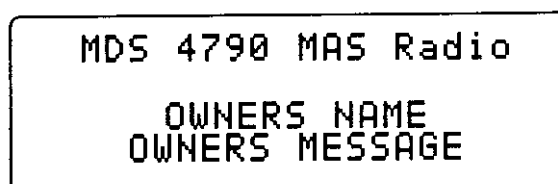

Figure 17. Startup Screen (Typical)
At initial power up (or after any extended period with no keypad activity), the LCD display shows the Startup screen (Figure 17). The startup screen displays the owner's name and message. Typically shown is the system name and site name.
- **ESCAPE**—Returns you to the previously selected screen. It is a good way of cancelling a pending change. Also, by pressing the ESCAPE button three times, you can return to the Startup Screen (Figure 17) at any time.
- The radio displays the Startup screen similar to Figure 17